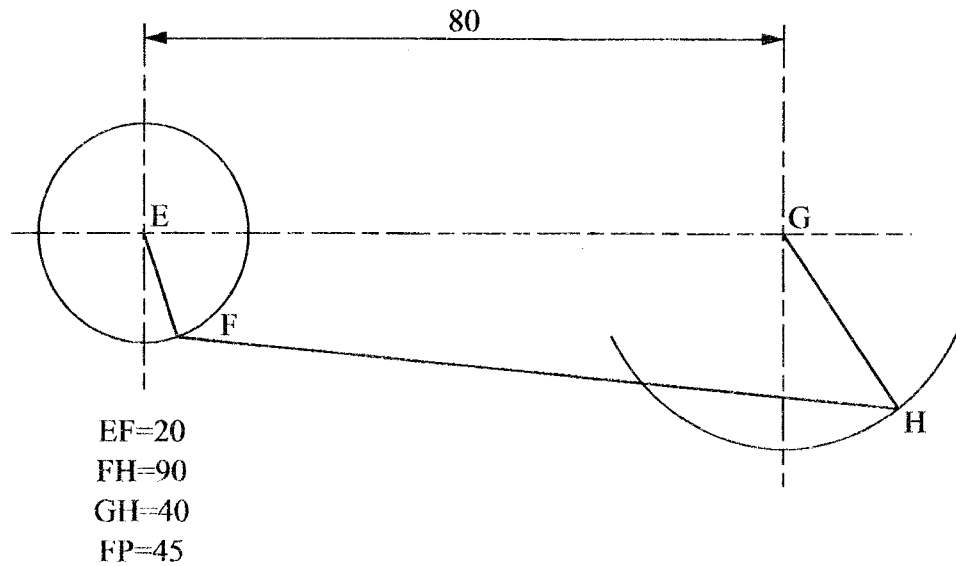

Figure 8
12. In the mechanism shown in **Figure 8**, the crank EF rotates about centre E while GH oscillates about G.